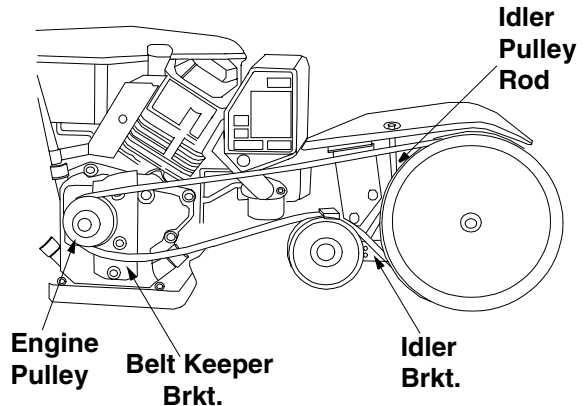

Figure 11
- Remove the hairpin clip and spring washer from the idler pulley rod. See Figure 11.
- Move the idler pulley rod to the lower hole in the idler bracket. See Figure 11.
- Remove the belt keeper bracket located behind the engine pulley by removing two hex bolts and lock washers. See Figure 11.
Upon reassembly, make certain the belt is routed over the idler pulley and inside of belt keepers by engine pulley. See Figure 11.